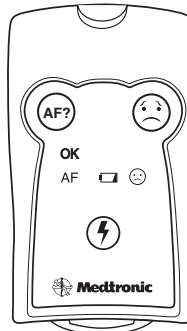

Figure 3. Patient Assistant with all symbols displayed for reference
3. Listen for a long beep or look to see if the telemetry status light is solid green. Lift the Patient Assistant to see what appears on the display area (Figure 3).